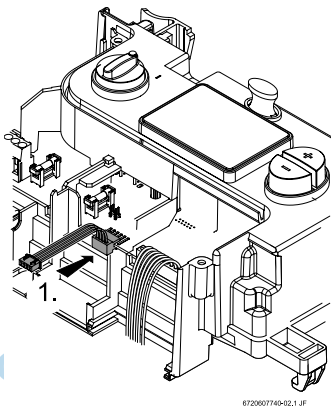

Fig. 4 PCB connection cable
- ▶ Connect PCB's connection cable as in Fig. 4.